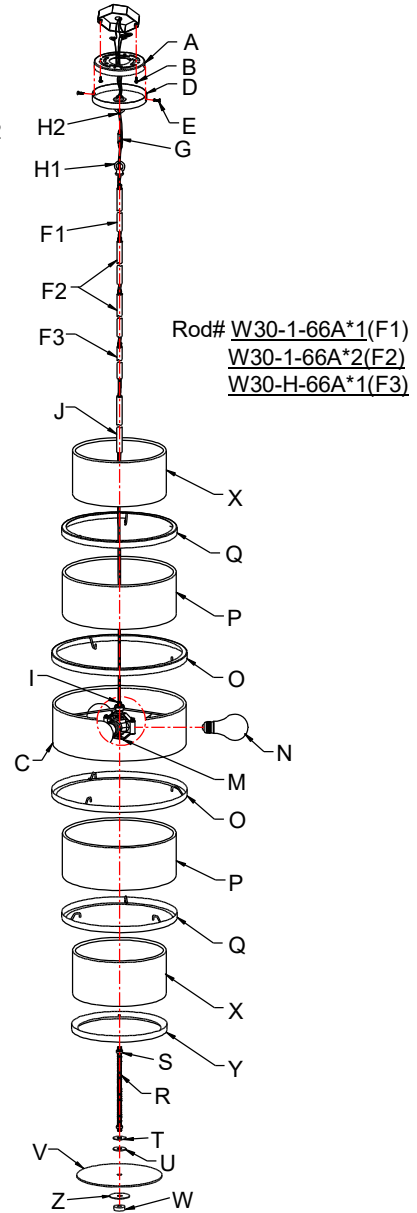

Fig. 2
CONNECTING THE WIRES (Fig. 2)
11. Connect the electrical wires as shown in fig 2, making sure that all wire connectors are secured. If your junction box has a ground wire (green or bare copper), connect the fixture's ground wire to it. Otherwise, connect the fixture's ground wire directly to the mounting plate (A) using the green screw provided.